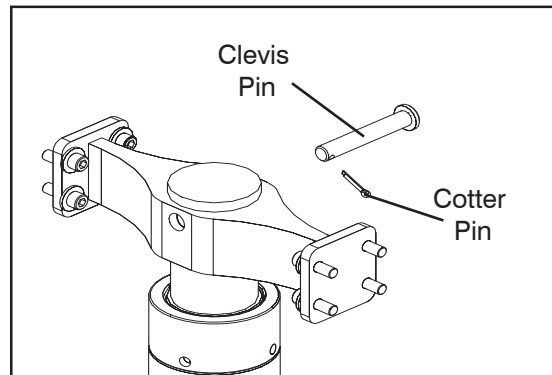

Figure 5-14. Cylinder Mount Bracket Removal
2. Remove the cotter pin and the clevis pin at the cylinder mount bracket. See Figure 5-14.